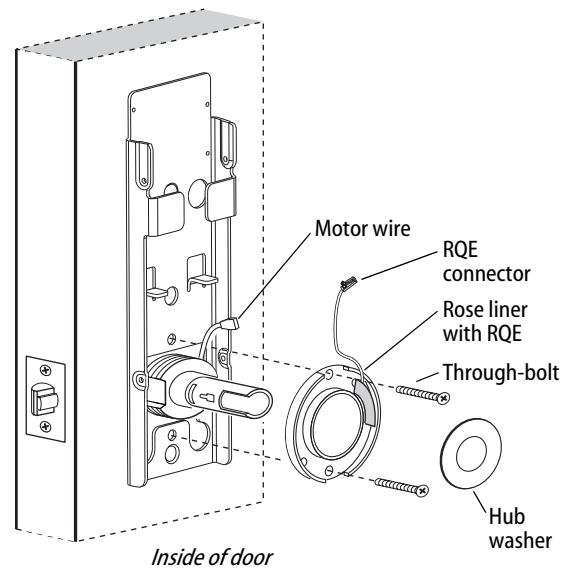

Figure 12 Installing the through-bolts and rose liner (9K shown)
- 1 Place the inside rose liner on the chassis, aligning the holes in the rose liner with the holes prepared in the door, as shown in Figure 12.